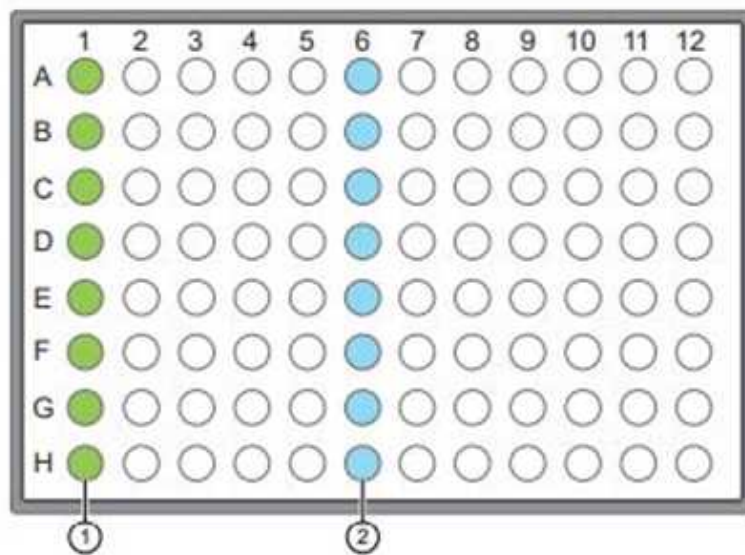

Figure 1: Plate set up for loncode barcode plates (ThermoFisher Scientific) for use in automatic library preparation.
- 9.4 Add  15 µL of the cDNA into the A-H (Fig 1) well in the loncode plates according to the plan made in the TSS.